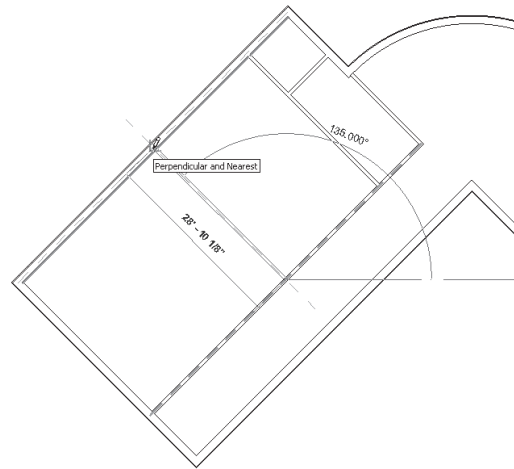

Figure 3-71 Completing the interior walls
11. Move the cursor toward the exterior wall and click when the perpendicular object snap appears, as shown in Figure 3-71, click to specify the endpoint and the wall is created. This completes the interior wall layout for the left portion of the Club project.